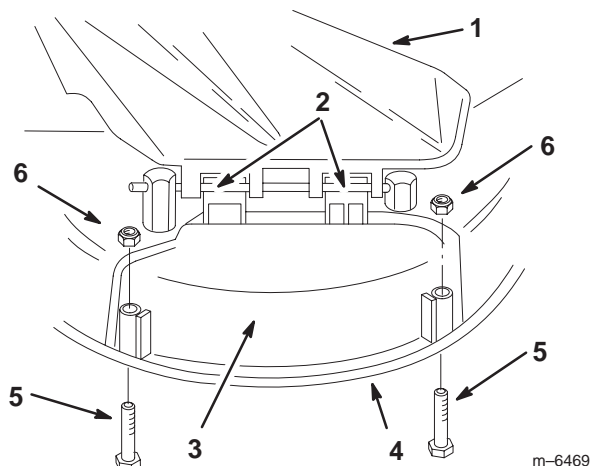

Figure 10
1. Lift the grass deflector and slide the tabs on top of the discharge cover under the grass deflector retaining rod. Rotate the discharge cover down over the opening, and onto the lower lip of the mower (Fig. 10).
2. Secure the discharge cover to the lower lip of the mower with two bolts (1/4 x 2-3/4 inch) and two cap nuts (1/4 inch) as shown in Figure 10.
2. Remove the 2 bolts (1/4 x 2-3/4 inch) and 2 nuts (1/4 inch) that secure the discharge cover to the mower (Fig. 10).